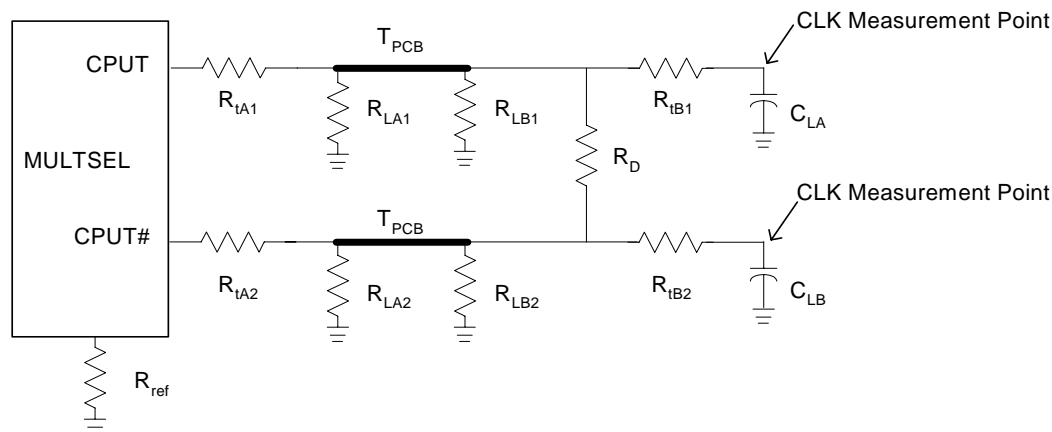

Figure 10. P4 Load Termination
CPUT/C	See Figure 10
- See Figure 10 for 0.7V loading specification.